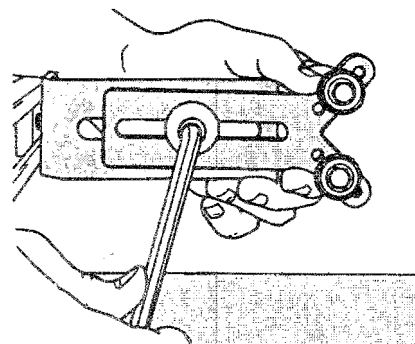

Fig. 7
7. Use a $\frac{5}{16}$ " Allen wrench to tighten the cap screw (10), as seen in Fig. 7.